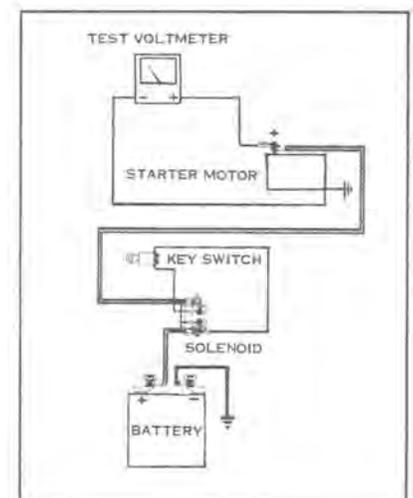

Figure 7-37
- Connect a voltmeter across starter motor (see Figure 7-37), with positive (+) lead to starter motor terminal, and negative (-) lead to ground on starter frame.